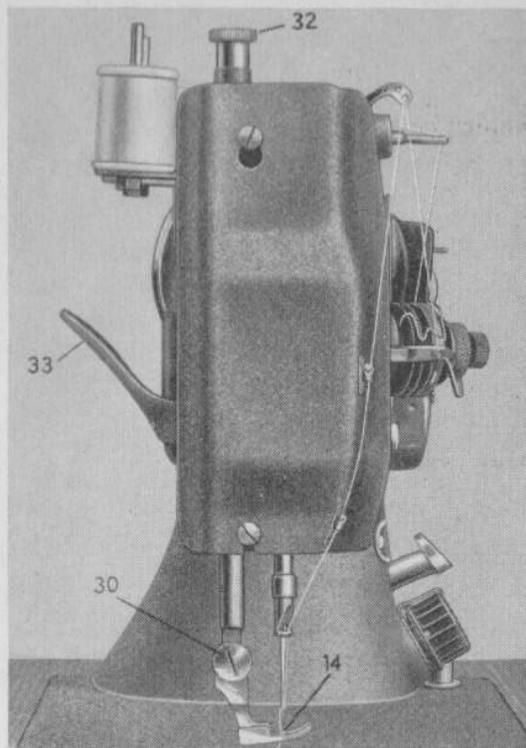

FIG. 10
must bear down on the material. Presser foot lifter (33) controls the raising and lowering of the presser foot. (Fig. 10.)
*Regulating the pressure of the presser foot:* Turn regulator bushing (32), fig. 10 to the right for more pressure and to the left to reduce it. When sewing heavier material, stronger pressure of the presser foot is often desirable. Thin cloth usually requires reduced pressure of the presser foot.
- c. Loosen thumb screw (30), fig. 10 about three turns. Push presser foot downward from its seat on the presser bar. Tilt the bottom of the foot to the left and remove the foot.
- d. To install a different presser foot, slide its channel-like portion at the top upward against the presser bar and tighten thumb screw (30).